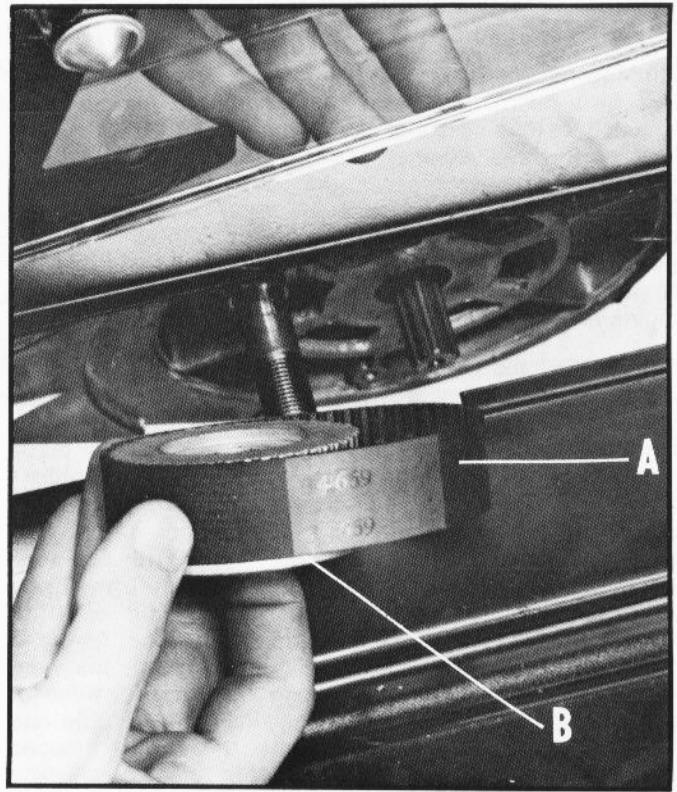

Fig. 25
3. Slide the belt (A) Fig. 25, off the motor shaft and at the same time slide off the blade arbor flange (B).